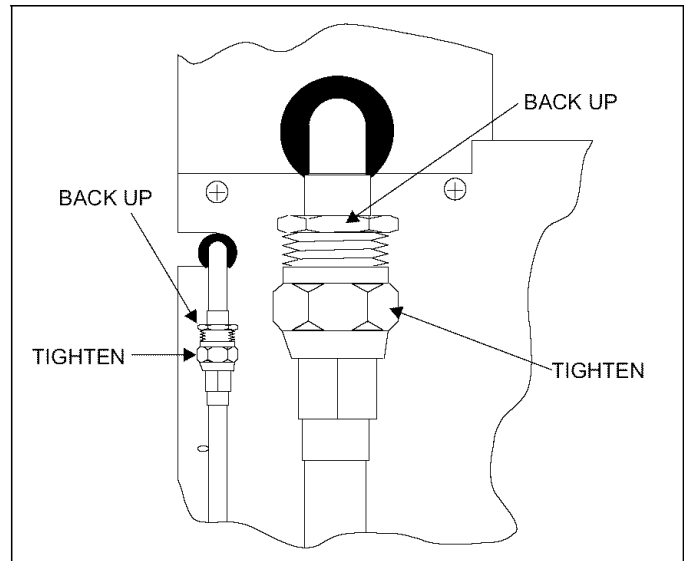

FIGURE 7: Quick Connect Coupling
- a. Tighten indoor coil couplings with wrenches; using wrench on stationary fitting of coupling and liquid line fitting at coil while nut is being tightened. See Figure 7. Tighten the nut until the coupling bottoms out.